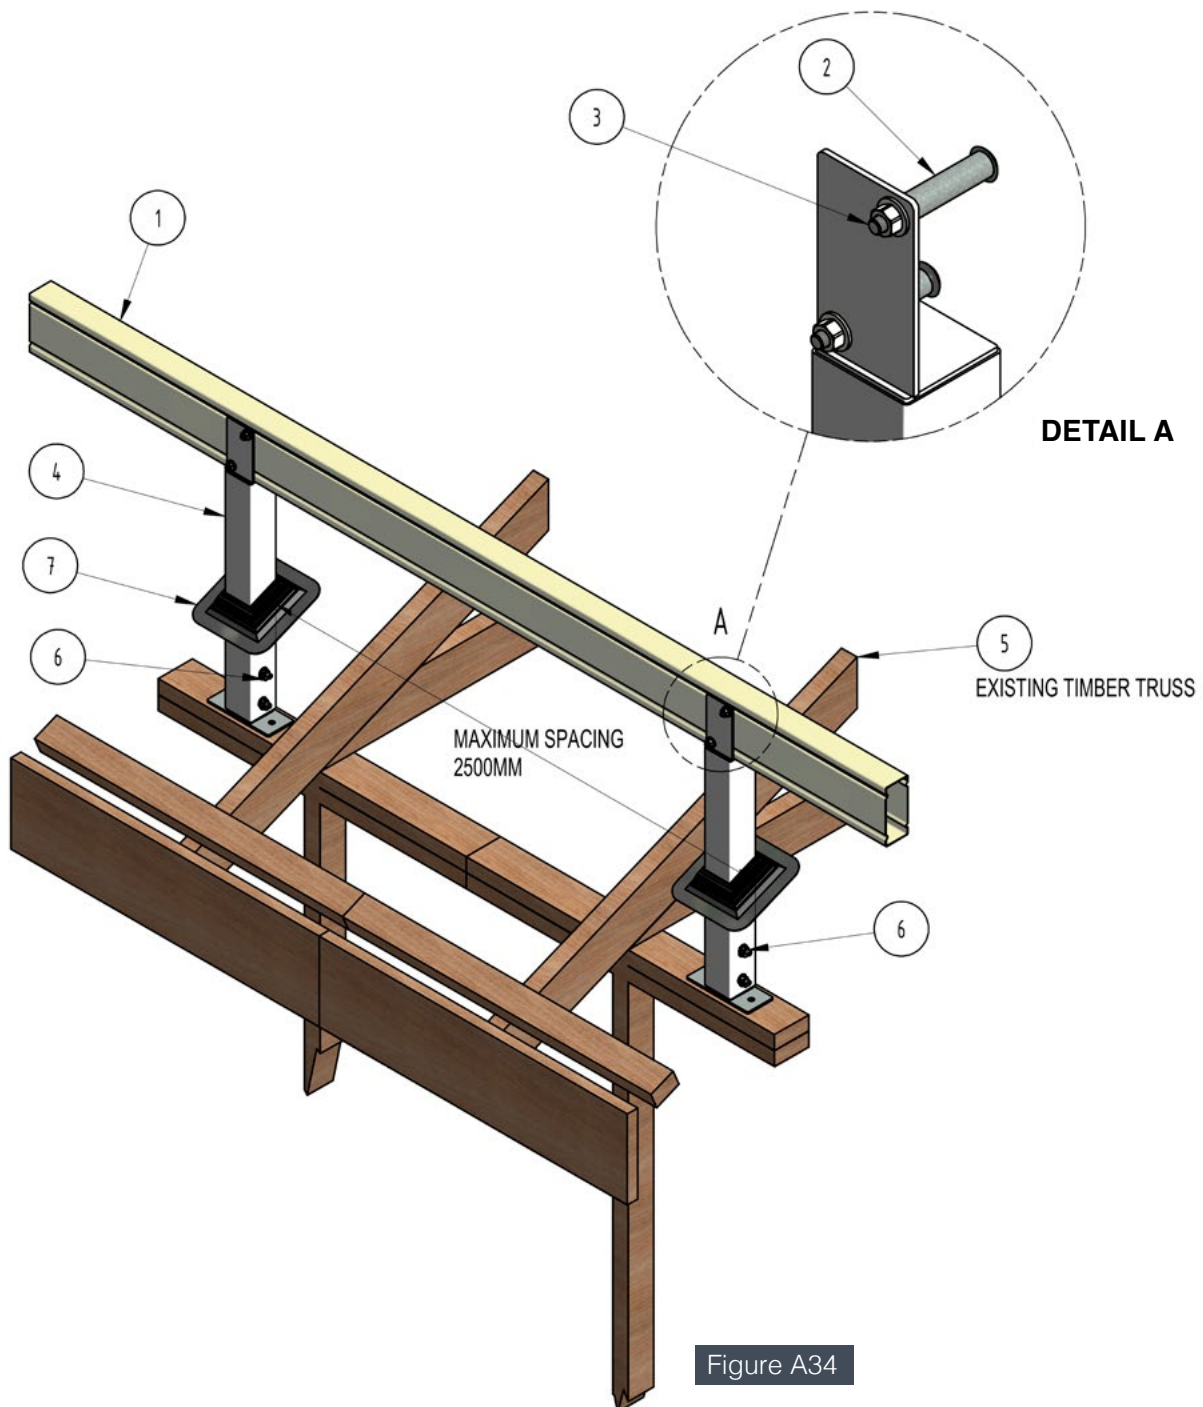

Figure A34
**Flyover with Delta Extension Bracket (see Figure A34)**